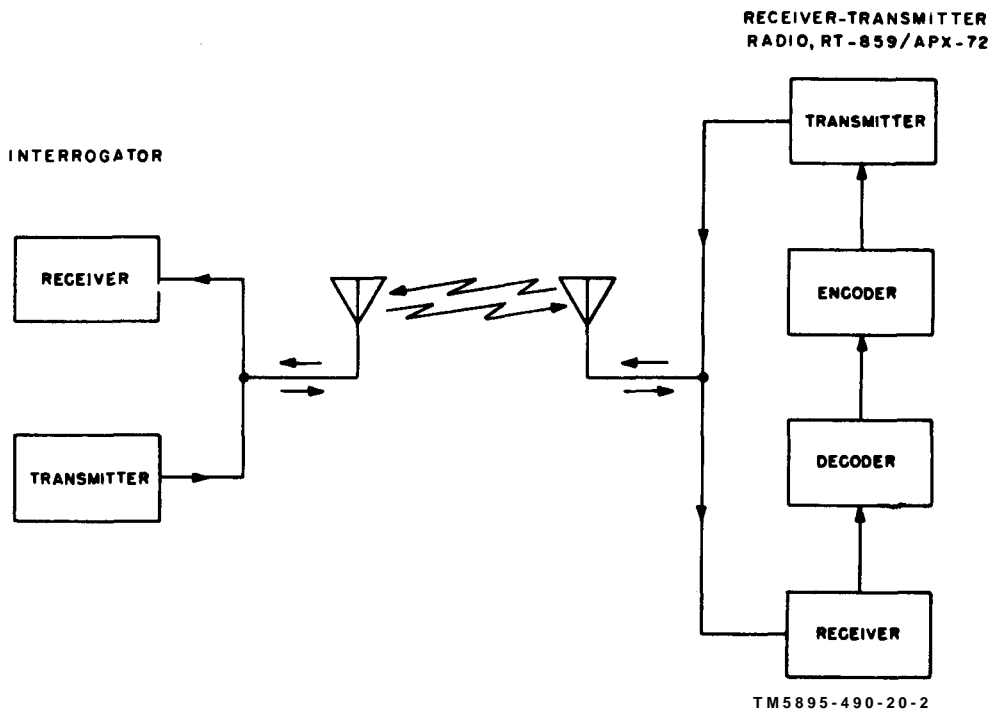

Figure 1-2 Receiver-Transmitter, Radio RT-859/APX-72 functional block diagram.
b. Figure 1-2 is a functional block diagram showing the interrogation and response of the RT-859/APX-72. Signals, consisting of pairs of pulses spaced to form a code, are transmitted to the RT-859/APX-72 which receives the coded signal and transfers it to the decoder. The decoder checks the incoming signal for valid code and proper mode (except for mode 4 interrogations which are sent directly to the mode 4 board). If valid, the decoded signal is sent to the encoder board which prepares the coded reply. The coded reply is sent through the transmitter and antenna to the interrogating source.
- (1) Low (sensitivity) operation
- (2) Normal (sensitivity) operation
- (3) Identification of position (IDENT-MIC)
- (4) Emergency